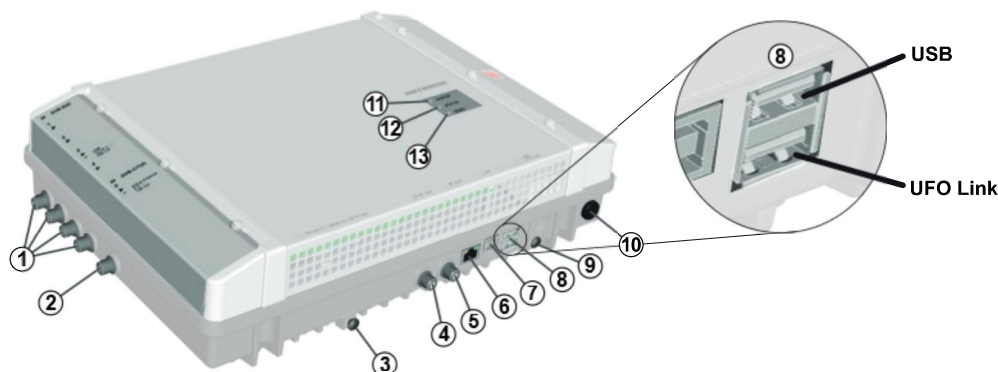

Fig. 1: Device elements
1. Connect a potential equalisation wire (Cu,  $\geq 4 \text{ mm}^2$ ) to the earthing screw; see ④ in Fig. 1, P. 3.